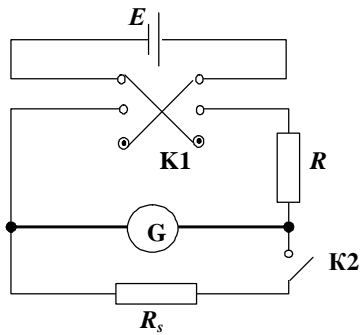

Figure 3.1 Electric diagram for galvanometer characterization
- 3.1 Assemble electric circuit according to diagram shown in Fig. 3.1 without connecting *emf* source. All switches must be off.